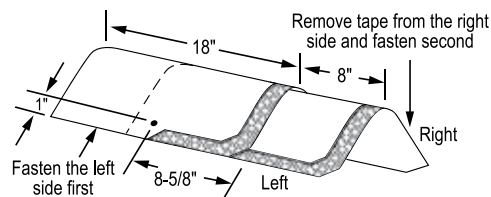

Figure 18-16: Installation of Shangle Ridge shingle on hips and ridges.
- Fasten each cap with two fasteners (see Figure 18-16). The fasteners must be 1 3/4" (45 mm) long, or longer, so they penetrate either 3/4" (19 mm) into the deck or completely through the deck, exposing at least 1/8" (3.2 mm) of the tip of the nail. Expose 8" (203 mm) of the accessory along the ridge or hip line and cover all fasteners.